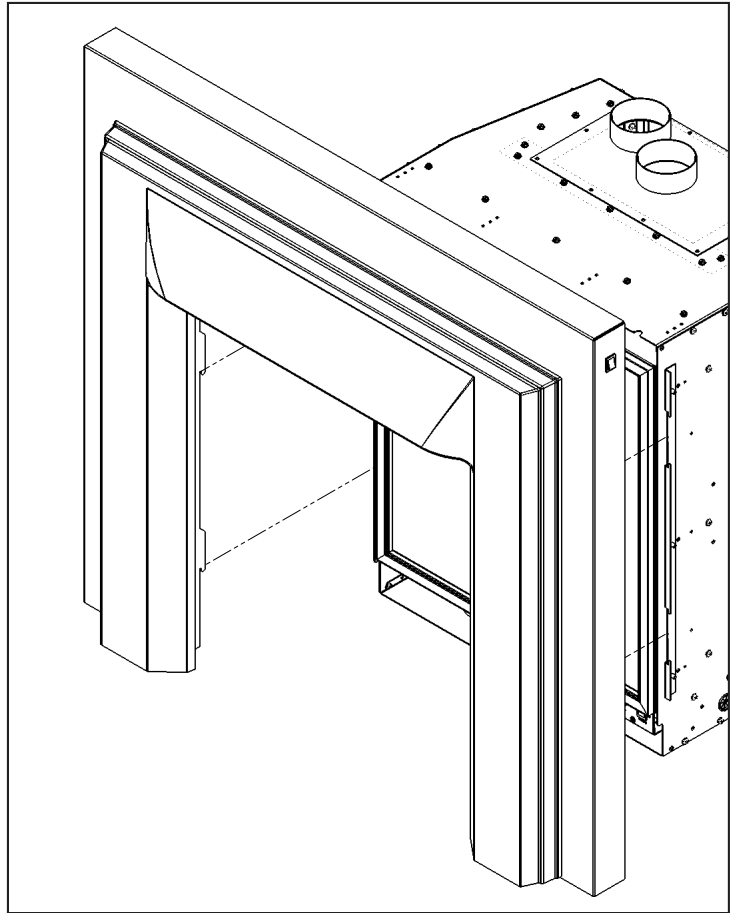

Figure 6: Surround Panel Install
**Step 7:** Install the surround by lifting up and onto the fireplace. Ensure the surround is securely attached to the fireplace before letting go (shown in Figure 6).